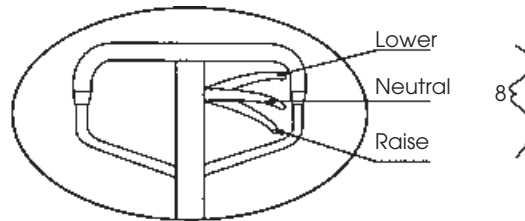

Fig. 3
8. Raise the forks by pushing the trigger, item 8, Fig. 3 down until it latches. Pump handle backwards and forwards, forks should lift. and should remain in up position.